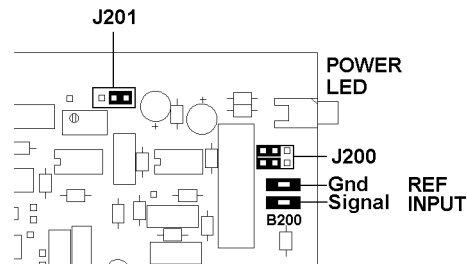
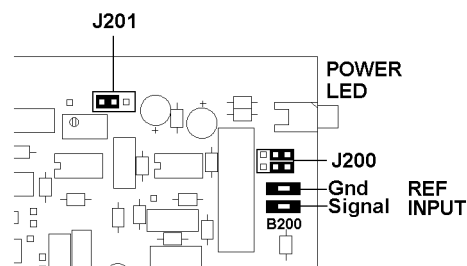

Figure 3-3, Jumper Settings for TTL Reference Input Mode
Figure 3-4, Jumper Settings for Analog Reference Input Mode
- 4) To set the reference input mode to TTL, position the jumpers as shown in figure 3-3, and to set it to the analog input mode, position them as shown in figure 3-4.